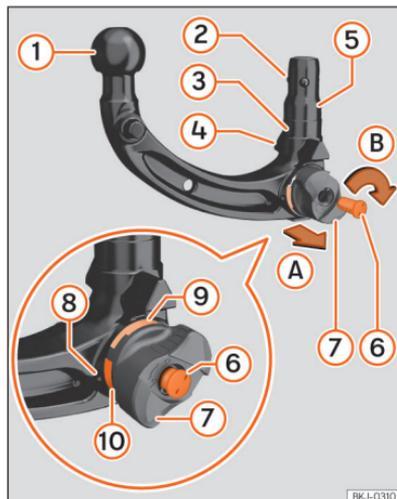

Fig. 154 Overview: removable tow hitch.
- ③ Locking mechanism (ball)
- ④ Centring guides
- ⑤ Stem
- ⑥ Key
- ⑦ Key slot cover
- ⑧ Thumbwheel
- ⑨ Green mark on the tow hitch
- ⑩ Red mark on the thumbwheel
3. Open the lock cover >>> Fig. 154 ⑦ and insert the key ⑥ into the lock.
4. Turn the key ⑥ counterclockwise until the arrow on the key points towards the lock open symbol on the thumbwheel ⑧.
5. Hold the tow hitch with one hand. With the other, pull out the thumbwheel ⑧ in direction A.
6. Turn the extracted thumbwheel ⑧ in direction B as far as the stop.
8. Release the thumbwheel ⑧.